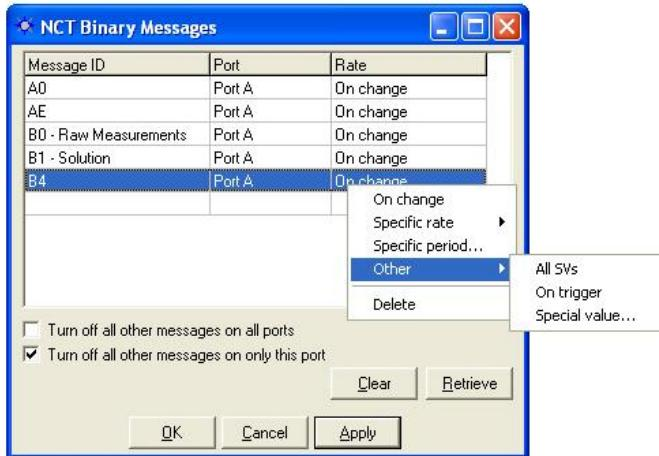

Figure 127: Event Latch Message 0xB4 On Trigger Configuration
- ✓ Add message B4 to the *NCT Binary Messages* window and set the Rate to *On Trigger* (see Figure 127). The Event Latch Message 0xB4 is output only when the chosen pulse edge of the incoming event is sensed by the receiver.